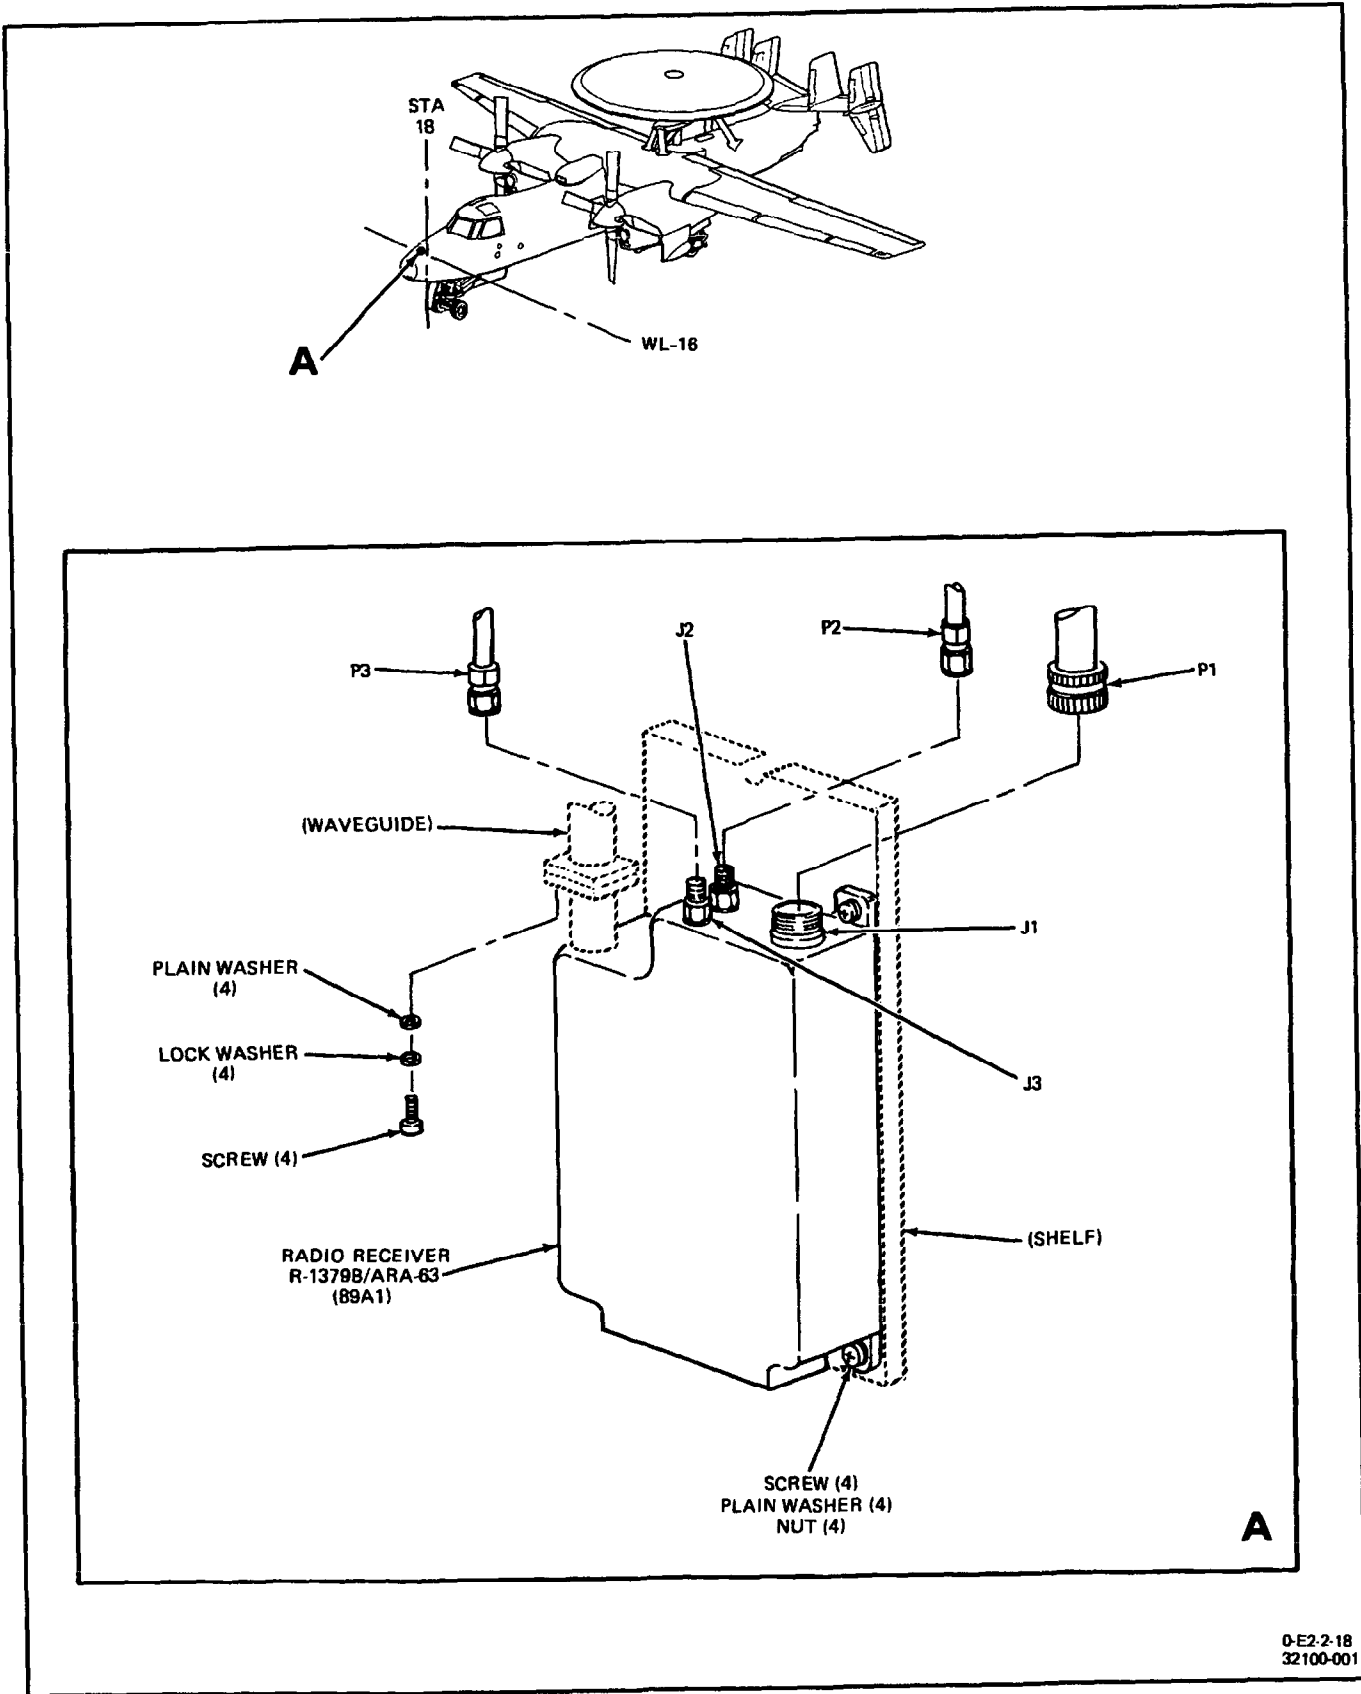

Figure 1. Removal and Installation of Radio Receiver R-1379B/ARA-63
2. Radio Receiver R-1379B/ARA-63 (radio receiver) (89A1) is part of Receiving-Decoding Group AN/ARA-63B. The radio receiver is in the nose compartment. See figure 1 for location of radio receiver.
**3. REMOVAL.** (Figure 1.)
#### 4. **INSTALLATION.** (Figure 1.)